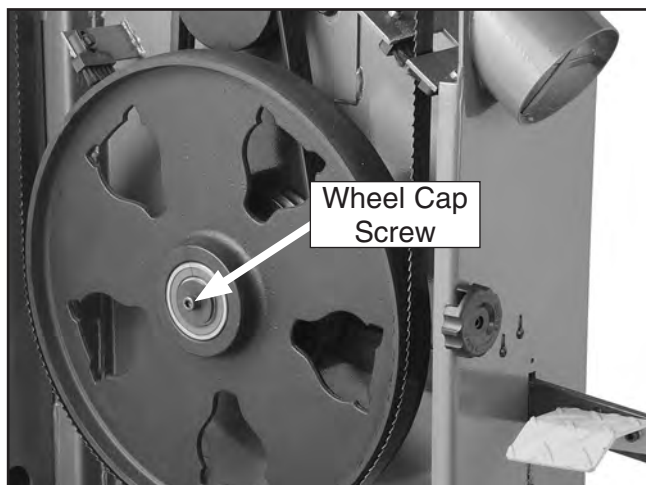

Figure 60. Wheel cap screw for removing the wheel.
4. Unthread wheel cap screw shown in **Figure 60** and slide lower wheel off of bearing shaft.